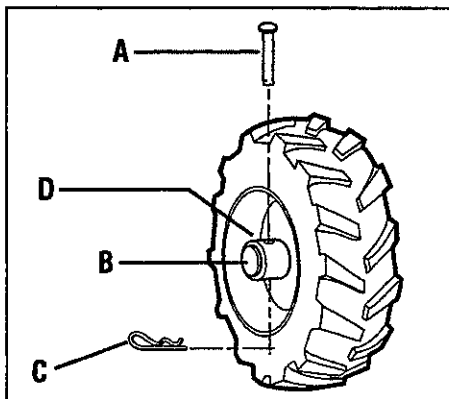

Figure 3-2: WHEEL DRIVE position.
Each wheel is equipped with a Wheel Drive Pin (A, Figures 3-2 and 3-3) that secures the wheel to the wheel shaft (B). The wheels can be positioned in either a WHEEL DRIVE or a FREEWHEEL mode.
3. Remove the hairpin cotter (C, Figures 3-2 and 3-3) and the wheel drive pin (A).
## 4. FOR WHEEL DRIVE mode (Figure 3-2):
Slide the wheel outward on the wheel shaft (B, Figure 3-2) and insert the wheel drive pin (A) through the wheel hub (D) and the wheel shaft (B). The wheel is now locked to the wheel shaft. Install the hairpin cotter (C) on the wheel drive pin, pushing the hairpin cotter in as far as it will go. Repeat for the other wheel and remove the support from the unit.